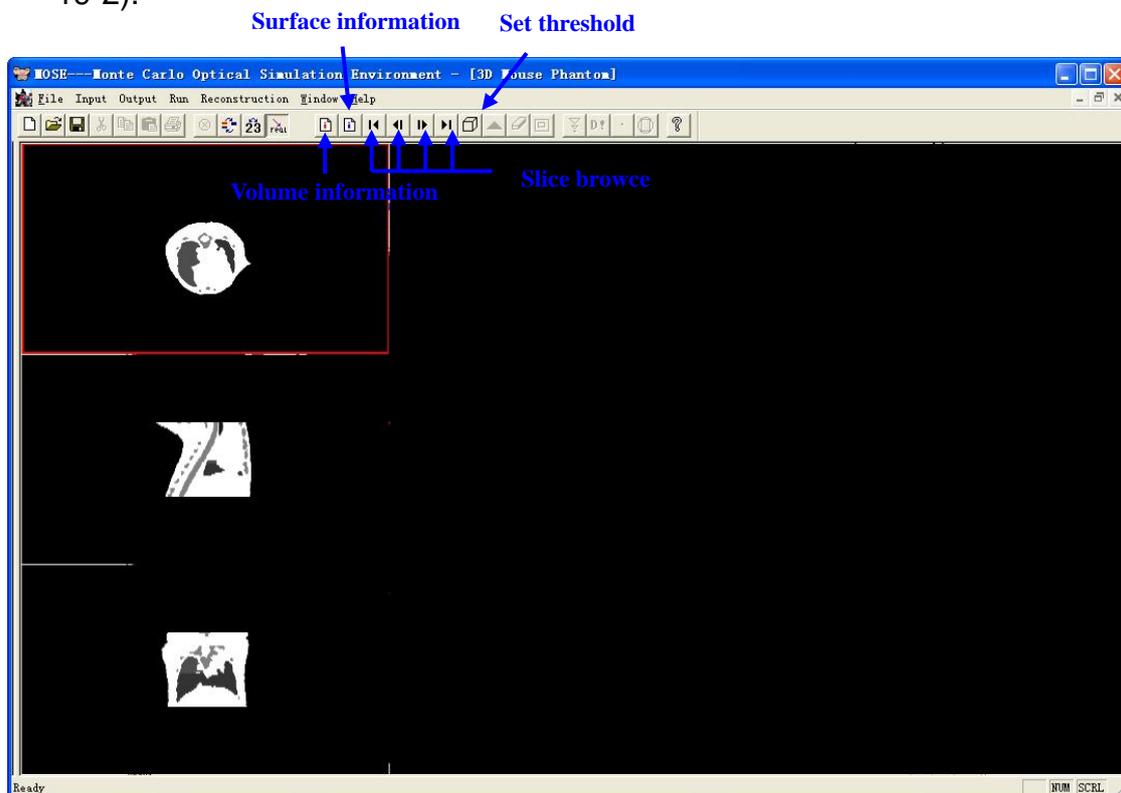

Figure 19-2. Three direction views of CT slice in MOSE
2. Click the **OK** button, we will see three images appear in the left of main window which are the views of CT slices from three directions (See Figure 19-2).